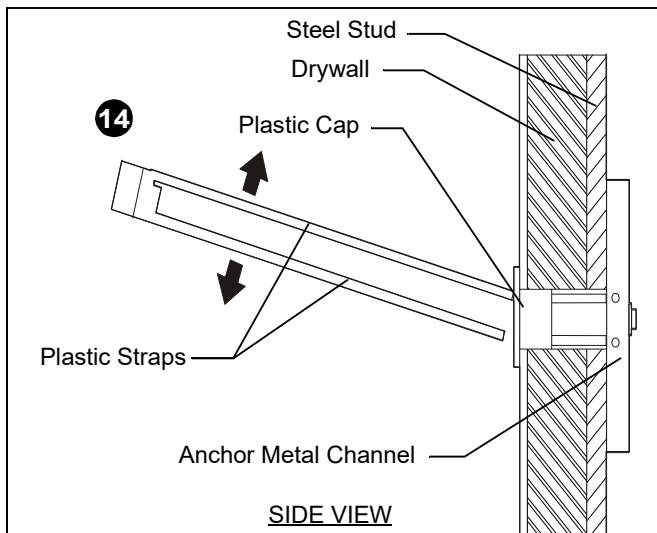

Figure 14
14. Snap off plastic straps on anchor at wall by pushing side to side, snapping off straps level with flange of plastic cap. (See Figure 14)
- Attach components to LeverLock™ backplanes following component manufacturer's instructions. Use cable ties (H) and cable tie clips (L) as needed to safely secure items to panels.
NOTE: LeverLock™ rivets (K) may be used for security if desired. Install in holes shown in Figure 14.